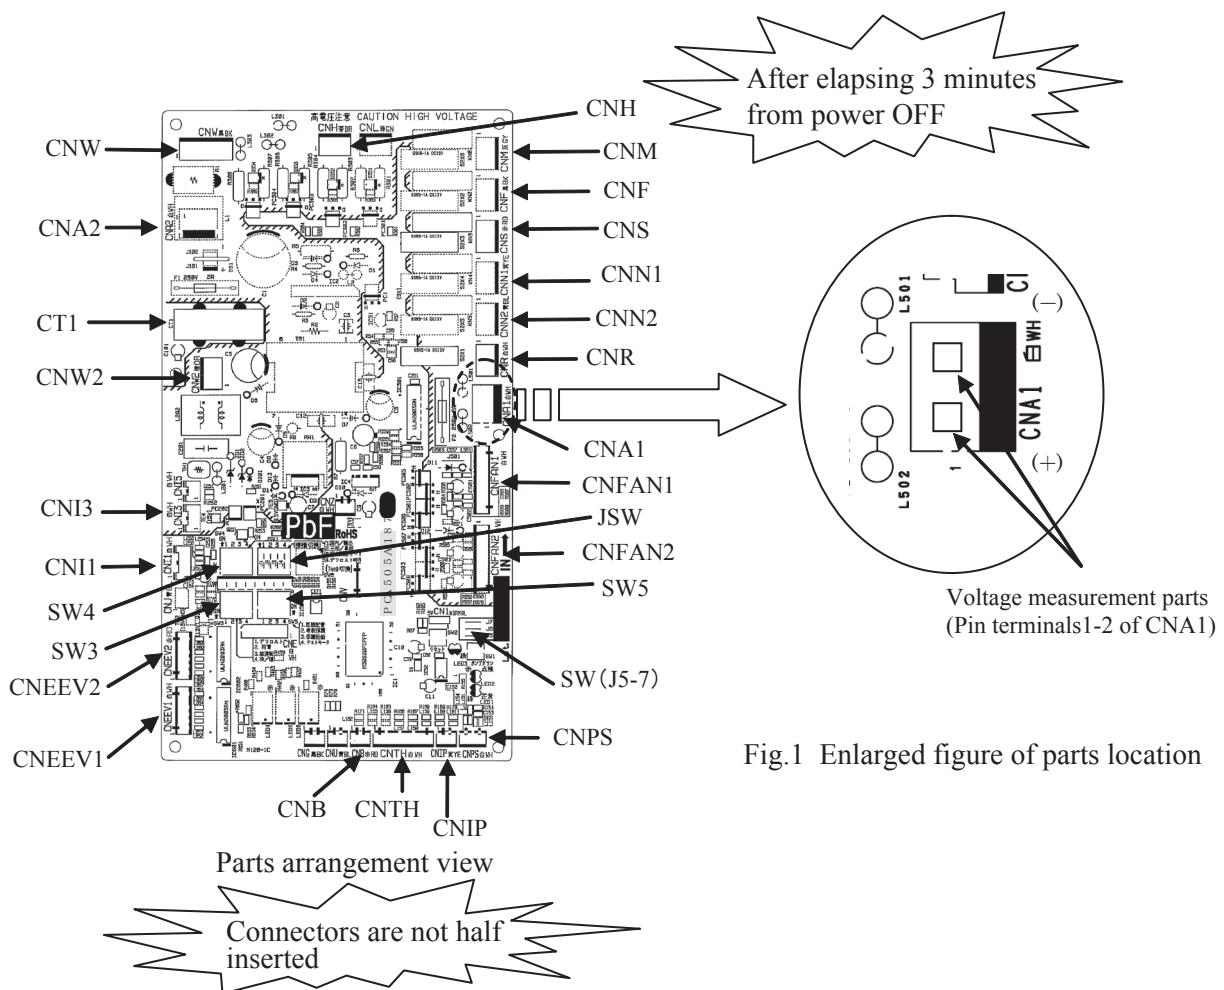

Fig.1 Enlarged figure of parts location
- 6) Connect the connectors with the control PCB referring to the parts arrangement of Fig.1.